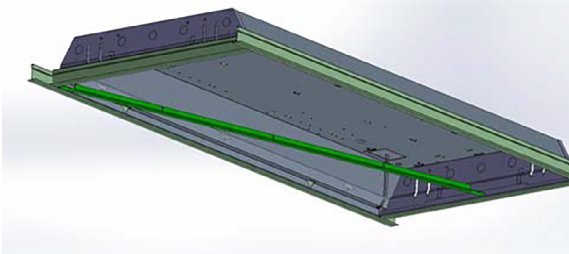

Fig. 1.2
3. Slide Universal Frame bracket under the fixture and between the T-Bar. (Fig.1.2) For Minimum Dimension requirements please see Required Minimum Dimensions Table on page 3.